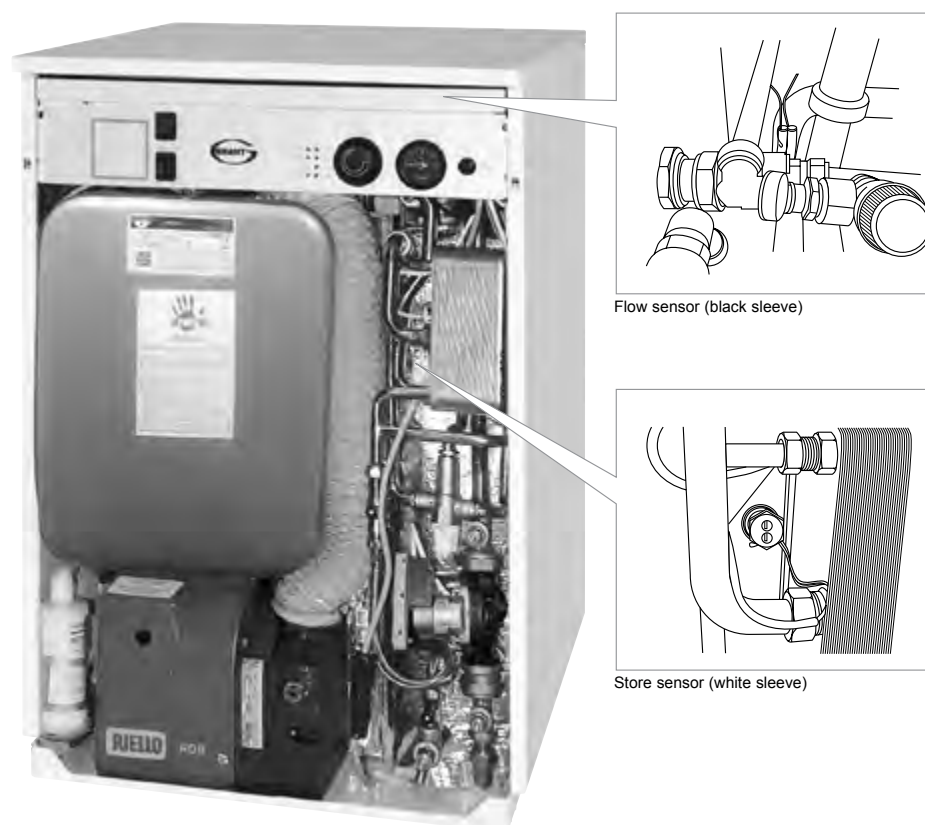

Figure 10-2: Position of boiler components - Vortex Pro Combi boiler
2. Check that the high limit thermostat bulb and both thermistor sensors are correctly located in their respective pockets. Refer to Figure 10-2. Check condition of both thermistor cables and thermostat capillary. Ensure they are not damaged, broken, kinked or crushed.